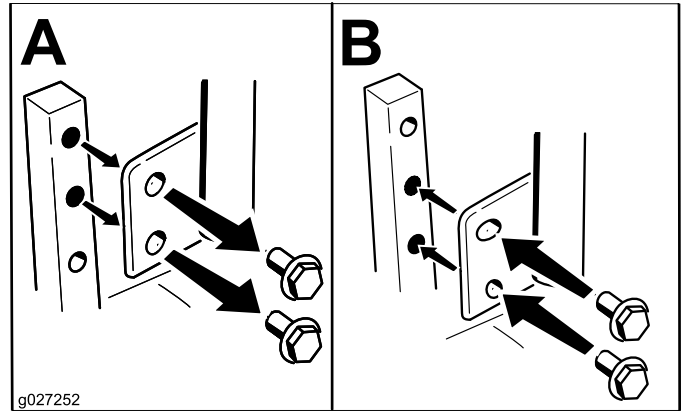

Figure 21
The motion control levers can be adjusted higher or lower for maximum operator comfort (Figure 21).
2. Loosen the lower bolt just enough to pivot the control lever fore or aft (Figure 21). Tighten both bolts to secure the control in the new position.